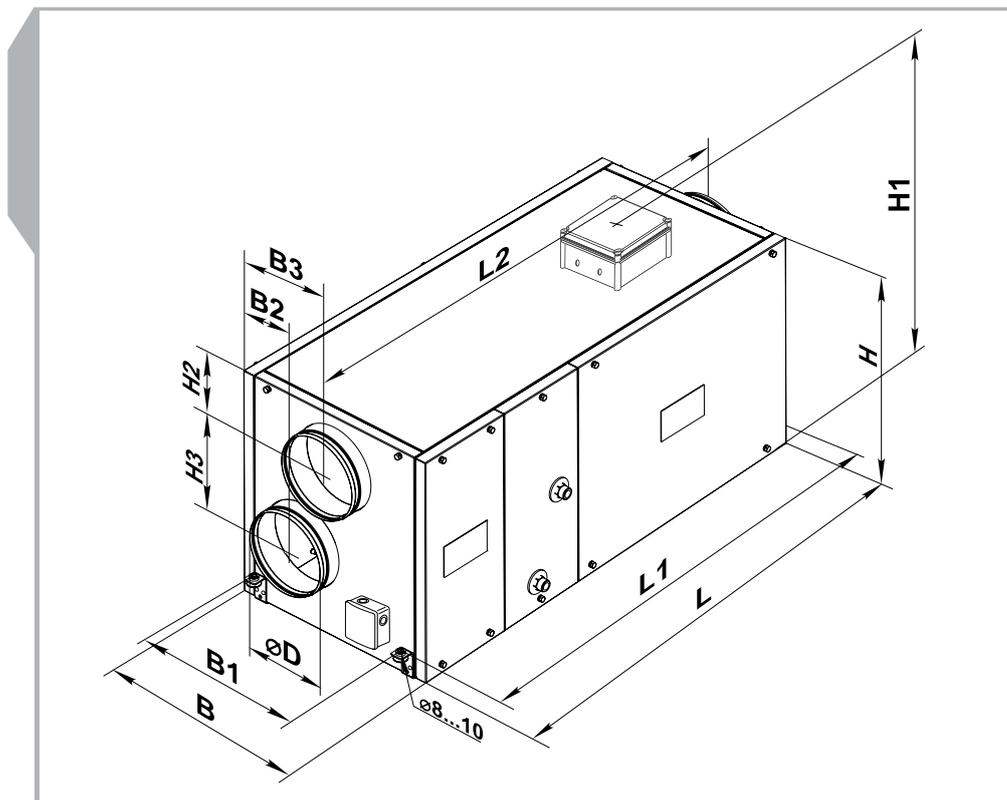

Fig. 1. Overall and connecting dimensions
The unit overall and connecting dimensions, external view, technical data are shown in Fig. 1 and in Tables 1 and 2. The unit design is regularly improved, so some models can slightly differ from those ones described in this manual.
**While mounting the unit provide enough service space and an access door in the ceiling for inspection and maintenance of the filters, heat exchanger and fans. One access door is required for each unit. For details, refer the outline drawing (ref. Fig. 1).**